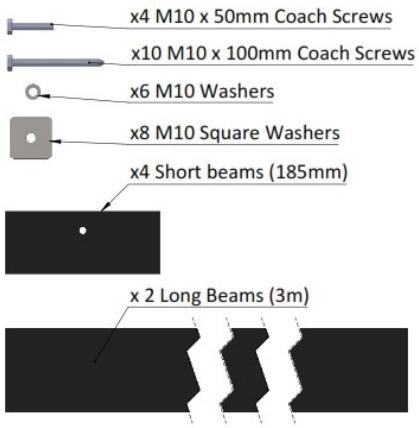

Fig 1
1. Assemble the underground module support kit as shown above (Fig. 1). It is advisable to drill a pilot hole prior to bolting the plastic beams together.